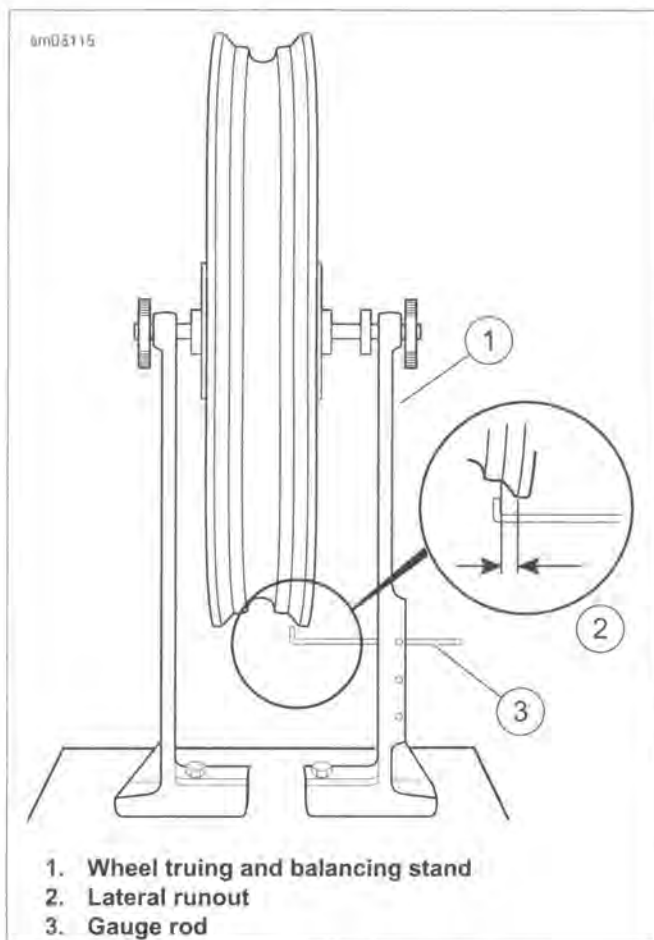

Figure 2-40. Checking Lateral Runout
1. See Figure 2-40. Mount wheel in WHEEL TRUING AND BALANCING STAND (Part No. HD-99500-80).